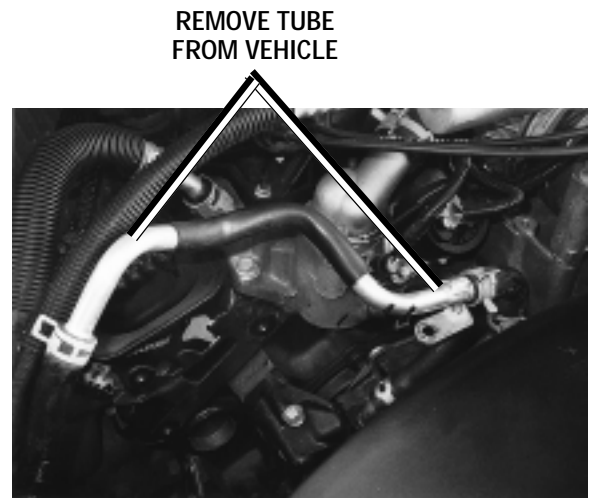

Fig. 1-a
- D. Remove the formed section of rubber/aluminum hose running from the water pump to the heater core hose. (See *Fig. 1-a*.) The heater core hose will be reconnected to a new hose in step 9.